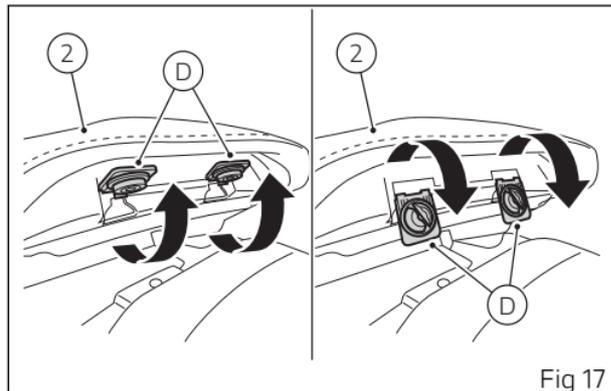

Fig 17
If the rider seat has been fit in low mode, turn the brackets with rubbers blocks (D) of the passenger seat (2) upwards (Fig 17).
If the rider seat has been fit in high mode, turn the brackets with rubbers blocks (D) of the passenger seat (2) downwards (Fig 17).